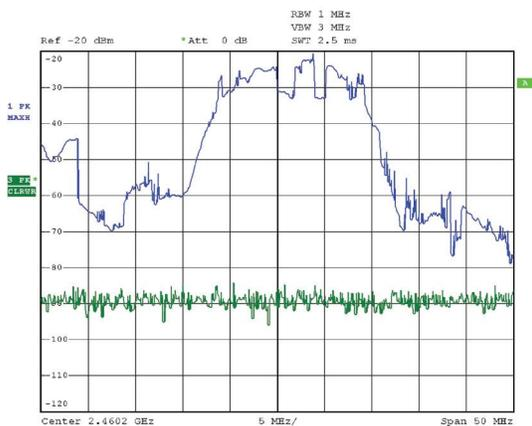
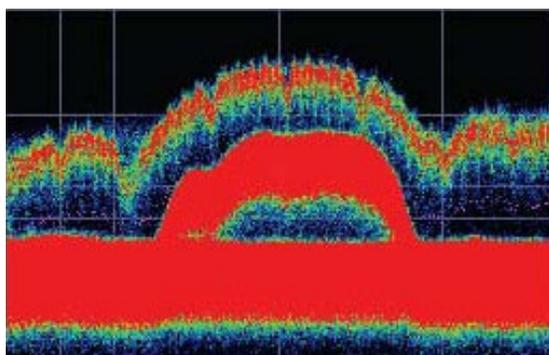

Figure 2
Figure 3
Compare the display of a traditional swept spectrum analyzer (Figure 2) and that of a real-time spectrum analyzer with a DPX spectrum display (Figure 3). The signal captured is a typical WLAN interchange between a nearby PC and a more-distant network access point (AP). The laptop signal is nearly 30 dB stronger than the AP's signal because it is closer to the measuring antenna.
The traditional swept spectrum analyzer display, Figure 2, uses line traces that can show only one level for each frequency point, representing the largest, the smallest or the average power. After many sweeps, the Max Hold trace shows a rough envelope of the stronger laptop signal. +Peak detection was selected for the other trace in an attempt to capture the weaker but more frequent AP signal, but the bursts are very brief, so the likelihood of seeing one in any particular sweep is small. It will also take a long time to statistically capture the entire spectrum of a bursted signal due to the architecture of the swept spectrum analysis.
The DPX spectrum display, Figure 3, reveals much more insight on the same signal. Since it is a bitmap image instead of a line trace, you can distinguish many different signals occurring within each update period and/or different version of the same signal varying over time. The heavy band running straight across the lower third of the graph is the noise background when neither the laptop nor the AP is transmitting. The red lump of energy in the middle is the ON shape of the AP signal. Finally, the more delicate spectrum above the others is the laptop transmissions. In the color scheme used for this demonstration (“Temperature”), the hot red color indicates a signal that is much more frequent than signals shown in cooler colors. The laptop signal, in yellow, green and blue, has higher amplitude but doesn’t occur nearly as often as the AP transmissions because the laptop was downloading a file when this screen capture was taken.